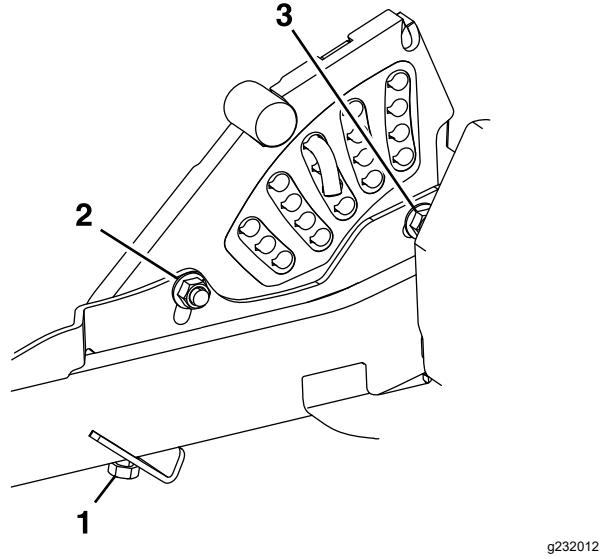

Figure 76
- If the deck is too low, tighten the single-point adjustment bolt by rotating it clockwise (Figure 76).